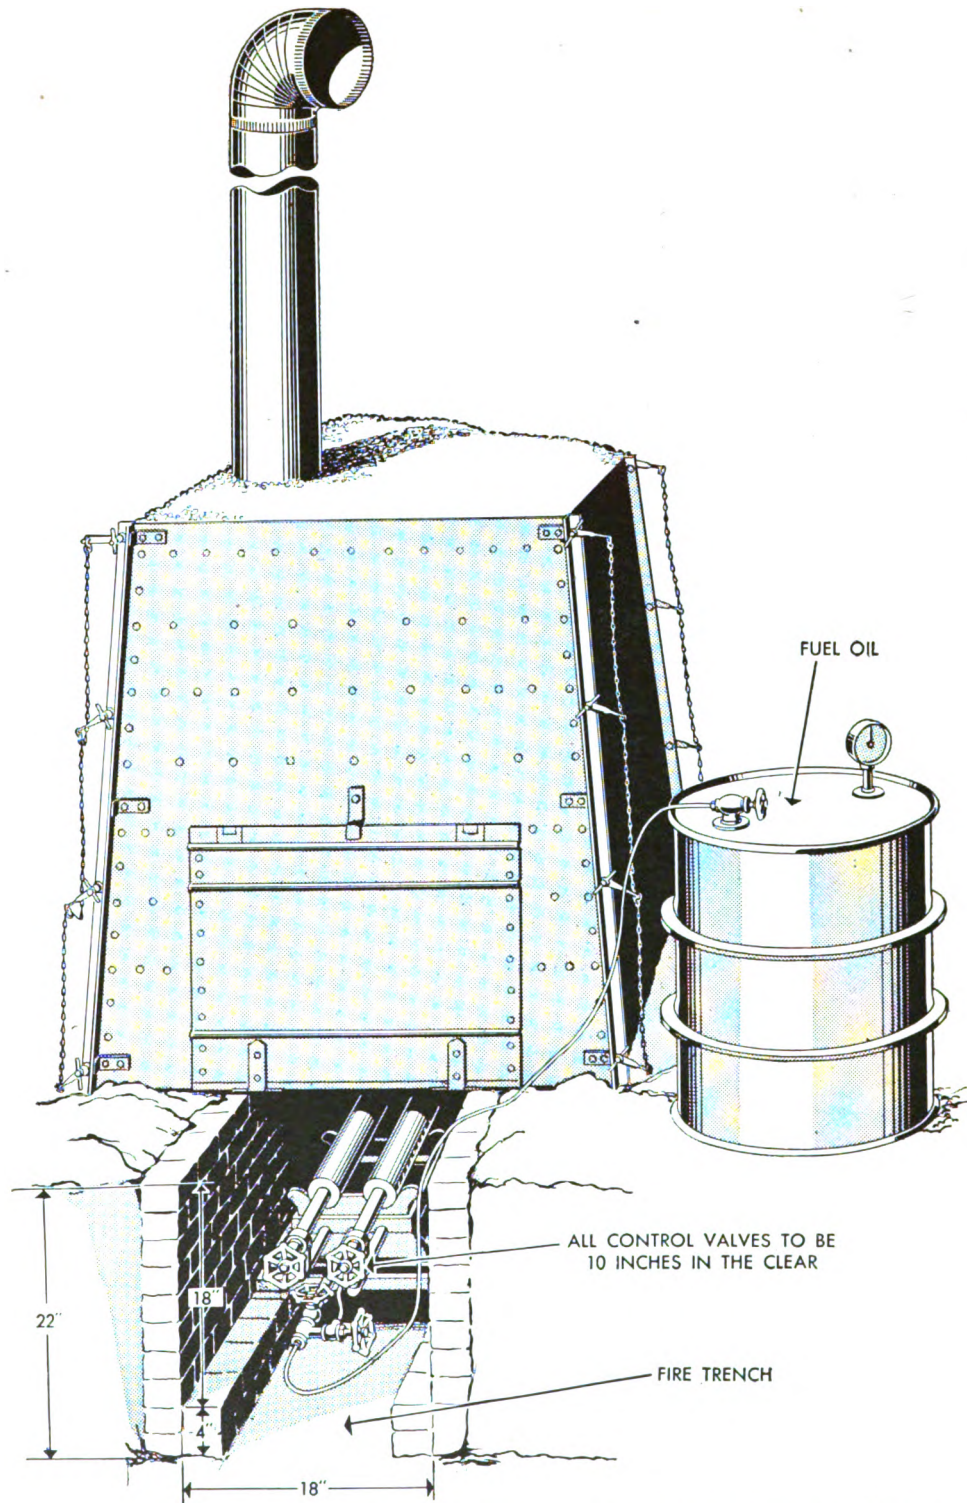

Figure 75. Wynne oil burner (65-A-1058) in use with oven, bake, Army field, No. 1.
b. Assemble the burner in the following manner (see fig. 75):
(1) Adjust each retort valve so that the orifice is centered on the opening of the flame pipe, at a distance of $\frac{3}{8}$ to $\frac{1}{2}$ inch.
(2) Clean the openings of the retort pipes with the wire tool or reamer.
(3) Put the flame pipes into position so that one row of holes in each pipe is directed on the retort base and the second row of holes is directed outward toward the walls of the trench.
(4) Level the burner in the center of the trench, with the operating valves extending 10 inches back of the oven. (See fig. 75).
(5) Set a 14- to 16-gauge drum of kerosene on the ground beside the firing pit. Connect the feed line from the drum to the burner. Be careful to wipe all gaskets clean before placing them on the drum connections and to use only the proper wrenches for tightening the nuts. Do not use pliers or Stillson wrenches.